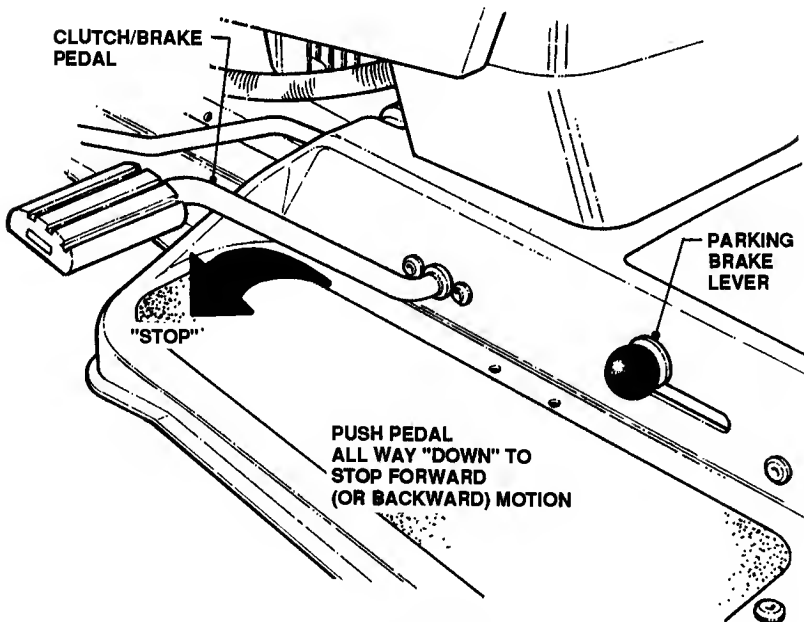
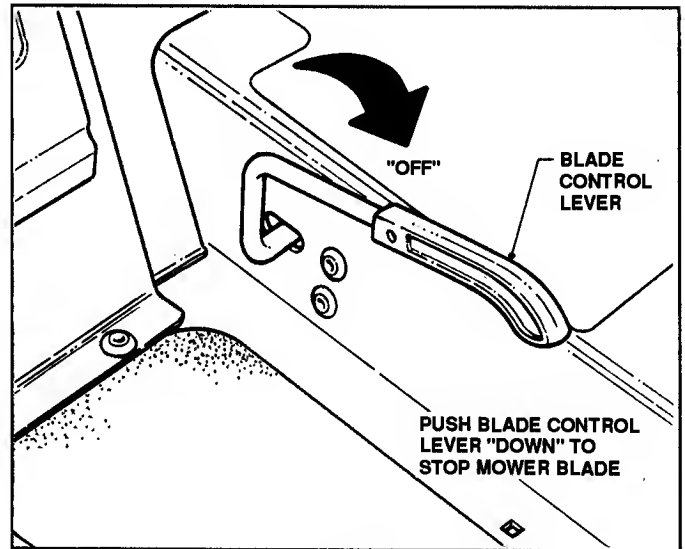

FIGURE 3
FIGURE 4
WHEEL DRIVE: STOP FORWARD MOTION of mower by pushing CLUTCH/BRAKE PEDAL all the way "DOWN". See Figure 3.
MOWER BLADE: STOP MOWER BLADE by pushing BLADE CONTROL LEVER downward to "OFF". See Figure 4.
2. PUSH BLADE CONTROL LEVER downward to "OFF" position (Figure 4) and fully depress the CLUTCH/BRAKE PEDAL (Figure 3), so that Safety Interlock System will allow engine to start.